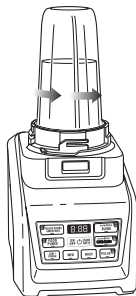

Fig. 5
- 9 Once you have reached your desired consistency, stop the appliance by pressing the power button and wait for the Pro Extractor Blades Assembly to stop turning. Turn the Nutri Ninja® cup anticlockwise and pull straight up to remove. **(Fig. 5, Fig. 6)**